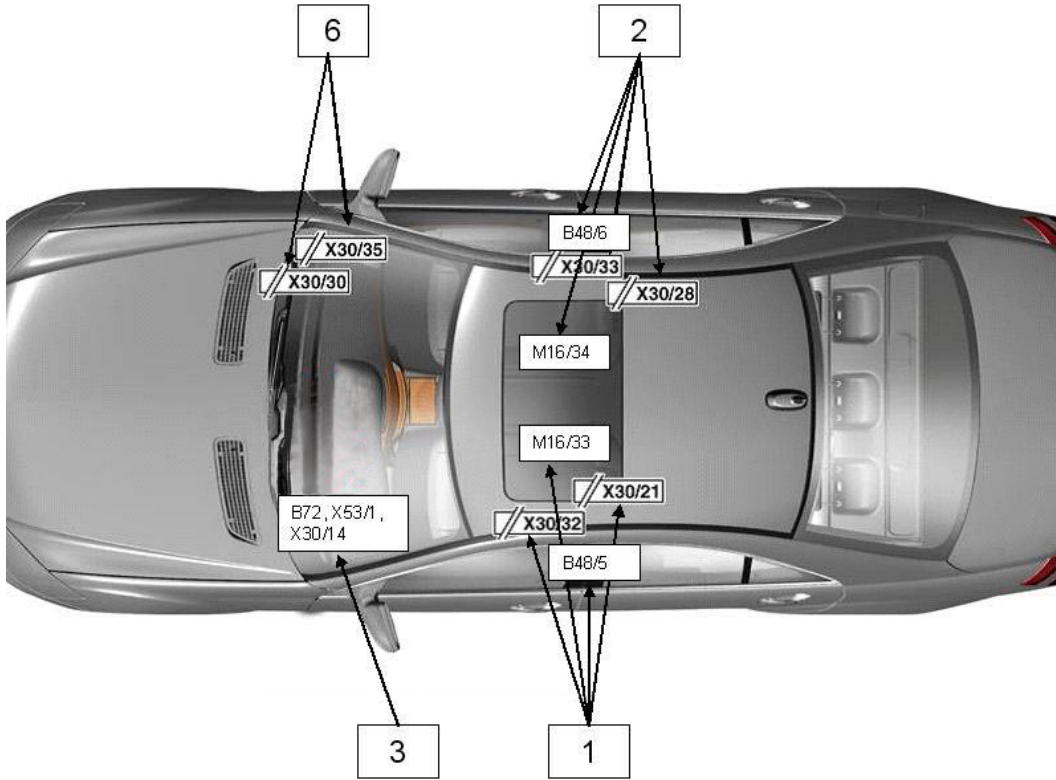

Figure 3
- Check all affected CAN hubs, connectors, and ground terminal points (Figures 3 and 4).